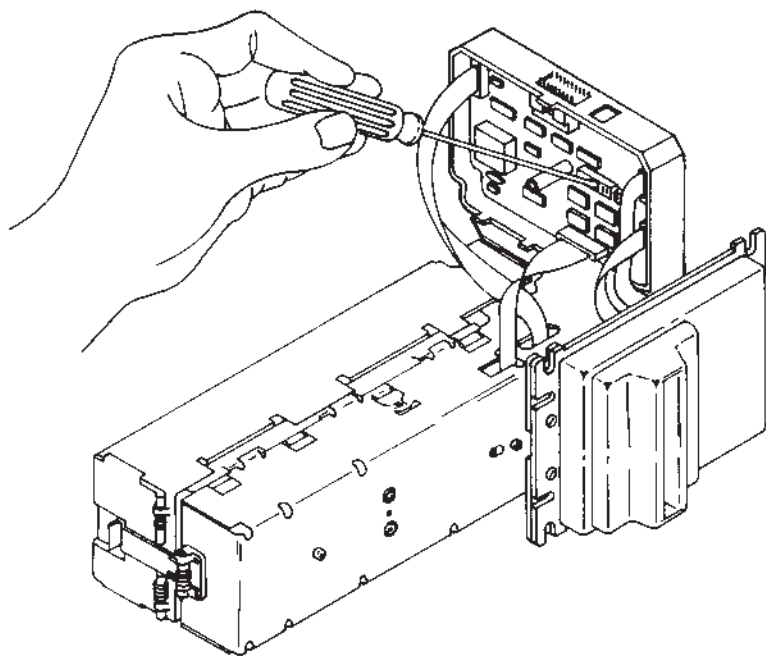

Figure 3. Setting The Option Switches
- Lift the control board/cover assembly as shown (Figure 3). Locate the option switches on the control board